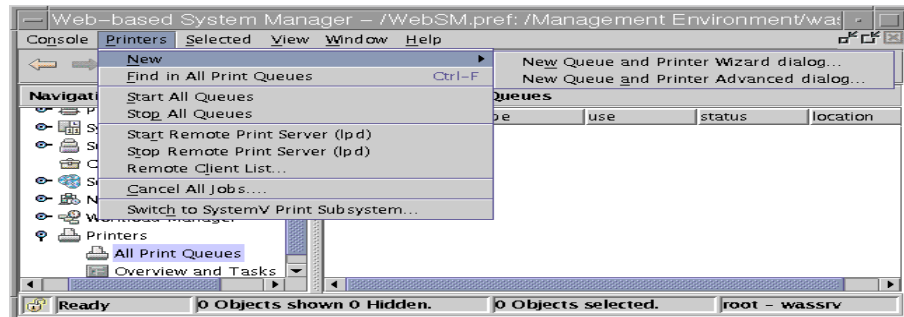

Figure 23. Printer menus
2. Double click **Printers** icon on the right frame and then double click **All Printer Queues** in the panel shown in Figure 23. Then select **Printers -> New -> New Queue and Printer Wizard dialog** in the menu.